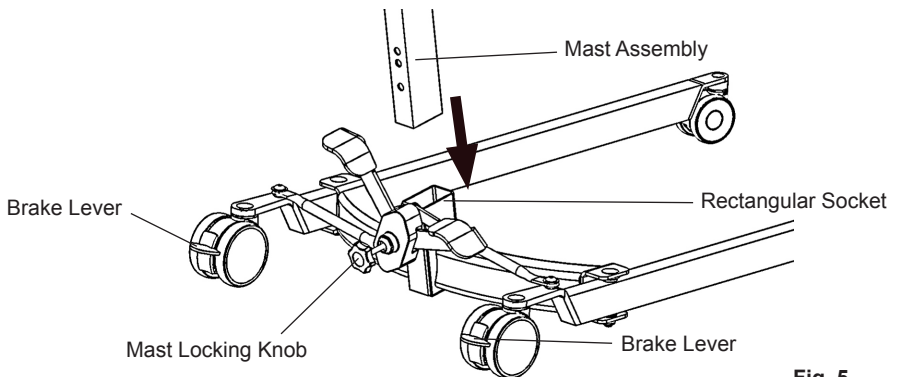

Fig. 5
2. Apply the rear castor brakes by pushing the brake levers (Fig. 5) downwards.
3. Fit the mast assembly to the chassis. The mast is located into the rectangular socket on the top centre of the chassis. (Fig. 5 - manual leg model shown).
4. When the mast is fully engaged within the socket, turn the mast locking knob (Fig. 5) clockwise, until fully tightened.